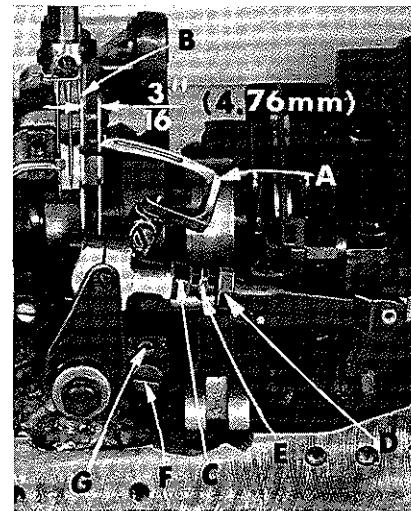

Fig. 8
Insert a new needle in the right needle seat, type and size as specified. If the looper gauge is $3/16$ inch (4.76 mm), for example, set the looper (A, Fig. 8) so the distance from the center of the right needle (B) to the point of the looper is $3/16$ inch (4.76 mm) when the looper is at its farthest position to the right. Looper gauge No. 21225- $3/16$ can be used advantageously in making this adjustment. Refer to chart for looper gauge setting and looper gauge number applicable to machine Style. If adjustment is required, loosen nut (C) (it has a lefthand thread) and nut (D) on connecting rod (E), turn the connecting rod forward or backward to obtain specified dimension. Retighten both nuts, first nut (D) and then nut (C). Make sure the left ball joint is in vertical position and does not bind after adjustment.
The looper is set correctly in line-of-feed, if, as it moves to the left, behind the needle, its point brushes, but does not pick at the rear of the needle. If adjustment is necessary, loosen lock screw (F, Fig. 8) and turn stop screw (G) as required. Turning stop screw clockwise sets the looper to the rear and turning it counterclockwise acts the reverse. Holding looper to the front while making this adjustment may prove helpful. Tighten lock screw when setting is obtained and recheck the adjustment.